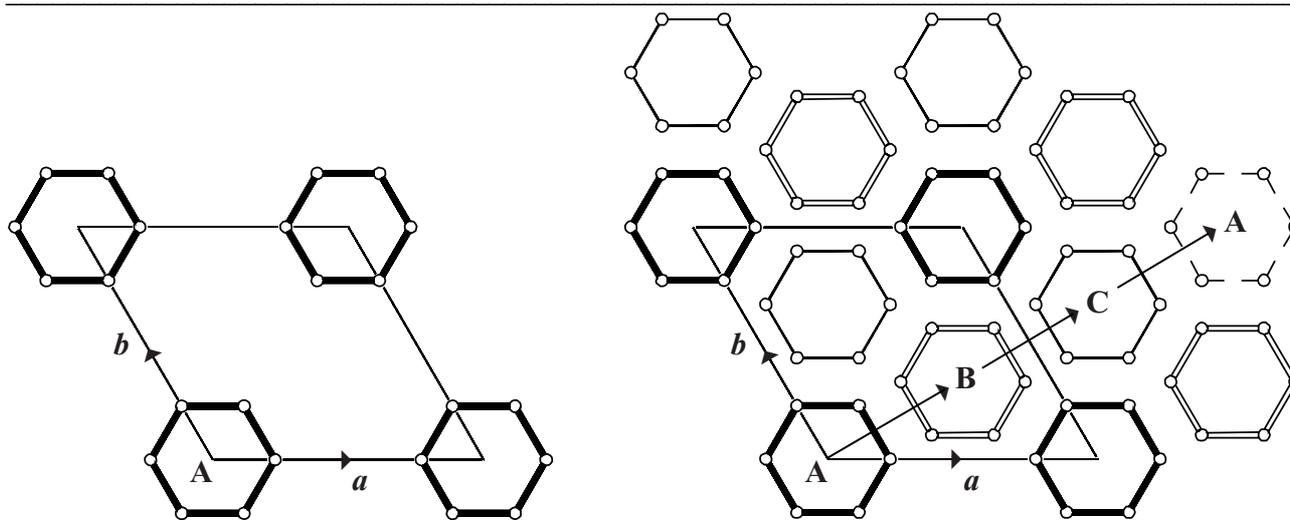

Figure 1: PerBU in **OFF** (left) and definition of 6-ring positions with respect to each other (right).
The two-dimensional Periodic Building Unit (PerBU) of **OFF** consists of an hexagonal array of non-connected planar 6-rings (bold in Figure 1), which are related by pure translations along a and b . The 6-rings are centered at $(0,0)$ in the ab layer. This position is usually called the A position.
(1) the next layer (second layer) is shifted by $+(2/3a + 1/3b)$ before connecting it to the first layer. The 6-rings in the second layer are centered at $(2/3, 1/3)$. This position is usually denoted as the B position as illustrated in Figure 1. The same connection mode can be repeated: a third PerBU is shifted with respect to the second layer by (again) $+(2/3a + 1/3b)$. The 6-rings are now centered at $(4/3, 2/3)$ [or, equivalently, at $(1/3, 2/3)$]. This position is called the C position. Adding a fourth layer with the same connection mode gives a shift with respect to the first layer of $(2a + b)$ [or zero] and an A position of the 6-rings is again obtained. The resulting stacking sequences, exhibiting the same connection mode, are denoted as AB, BC and CA, respectively (see Fig. 2(a) on next page).